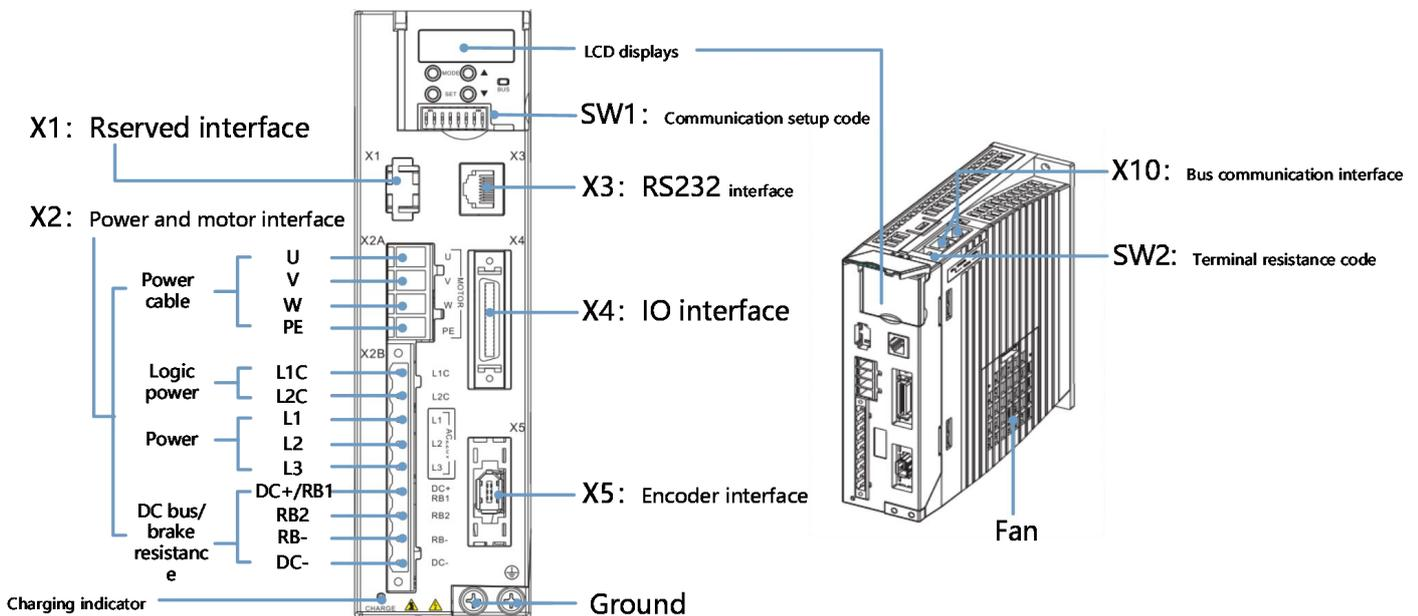

Figure 3-2: CD&FD433/623 Driver appearance
1. Please refer to the recommended specifications for wiring. Please use double stranded shielded cable. If the cable is longer, please increase the wire diameter appropriately. Please refer to Figure 3-2 for wiring of the external circuit of the cable.